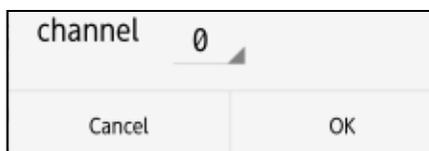

Figure 4-48 Channel setup screen
- (1) Tap Sensor setting: **[Channel]** menu. Then the channel setup screen (Figure 4-48) appears and shows the current setting.
- (2) Tap the channel setting value (0 in Figure 4-48), then the list of available channels appears.
- (3) Scroll the list and tap the desired channel.
- (4) Confirm the selected setting is shown as the current setting in the screen.
- (5) Tap **[OK]** to return to the parameter setup screen. To cancel the setting change, tap **[CANCEL]**. Then the screen returns to the parameter setup screen without setting change.
- (6) Tap **[Return to the main window]** to return to the main screen.